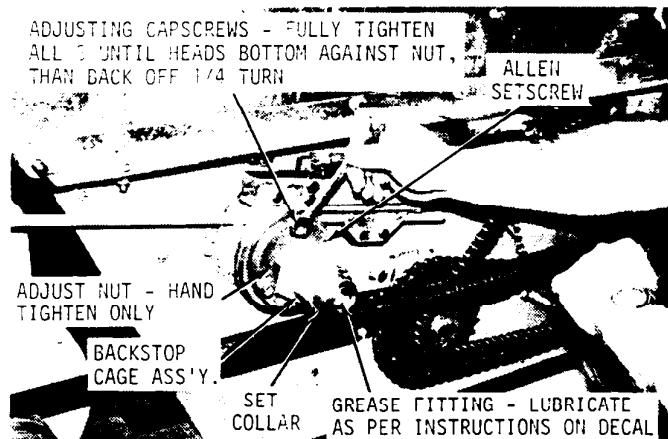

FIG. 5 - ADJUSTING THE TORQUE LIMITER ASSEMBLY
Inspect clutch facings for excess wear or breakage. Replace or readjust as required. To properly set clutch torque: (1) With the three fine adjust capscrews still loose, rotate the main nut by hand to take up all slack between clutch facings but do not apply pressure to facings. (2) Then turn the fine adjust screws all the way in until their heads bottom against the large nut. (3) Back each adjust screw off 1/4 turn and tighten the allen setscrew. This should give a torque setting of approximately 1,700 In.-Lb. See Fig. 5.